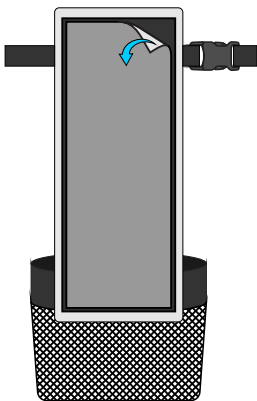

Fig 3.3A
3.3.2 Remove the large self adhesive velcro patch from the back of the bracket (see Fig 3.3A).